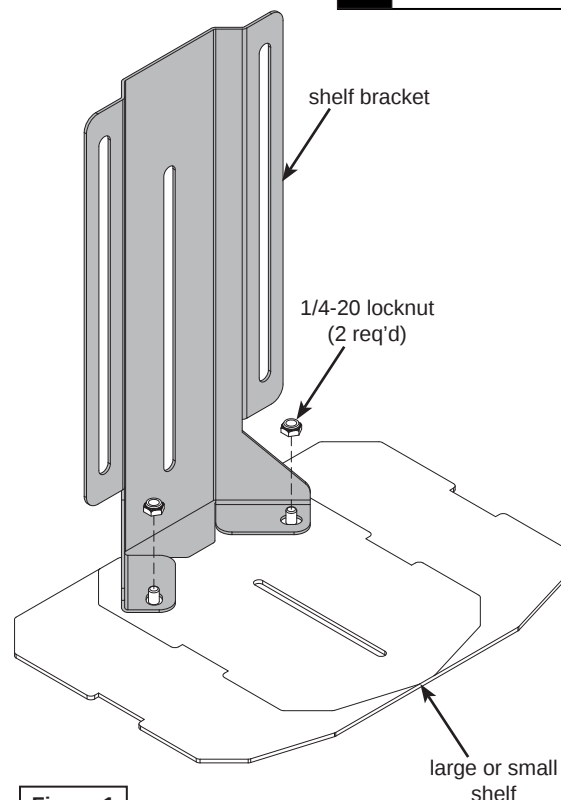

Figure 1
- B. Attach the bracket to the shelf as shown with (2) 1/4-20 locknuts and tighten securely. **Figure 1.**